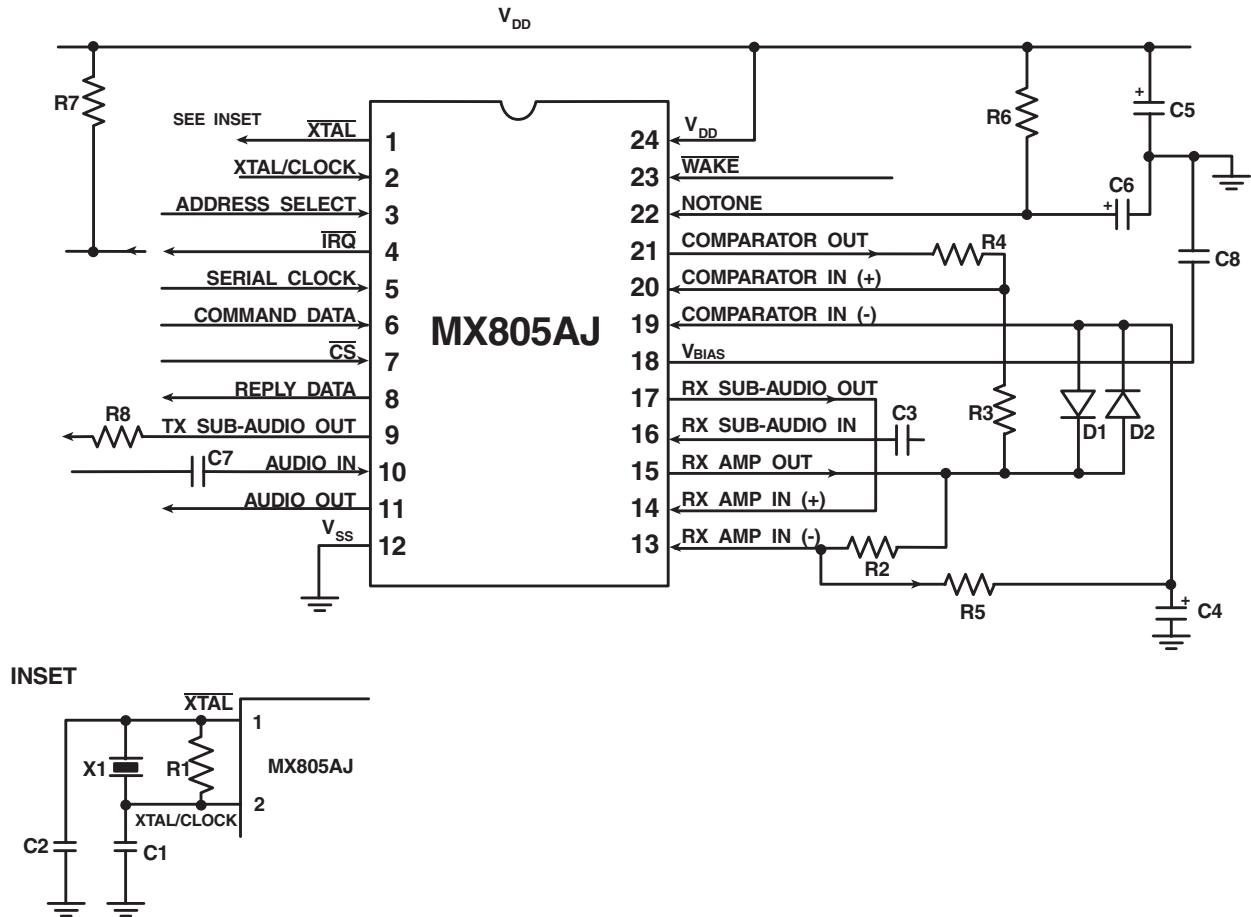

Figure 2: Recommended External Components
- If the on-chip Xtal oscillator is to be used, then the external components X1, C1, C2, and R1 are required as shown in Figure 2 (inset). If an external clock source is used these components are not required; the input should be connected to the Xtal/Clock pin and the  $\overline{\text{Xtal}}$  pin unconnected.